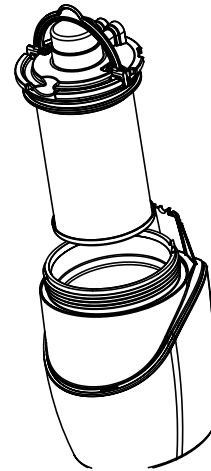

Fig. 16
8. Loosen the Filter Retaining Ring (Fig. 16) by turning it counterclockwise. Continue turning the ring until it is completely loosened and remove.
9. With the Retaining Ring removed, lift the Filter Bracket (and the attached used Filter Cartridge) from the Base Housing using the lift handle to facilitate removal. The lift handle will break the main housing seal (Fig. 16). Place the Filter Bracket and attached Filter Cartridge in the sink.